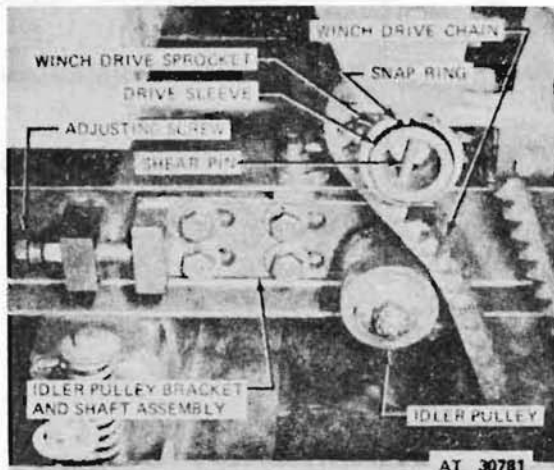
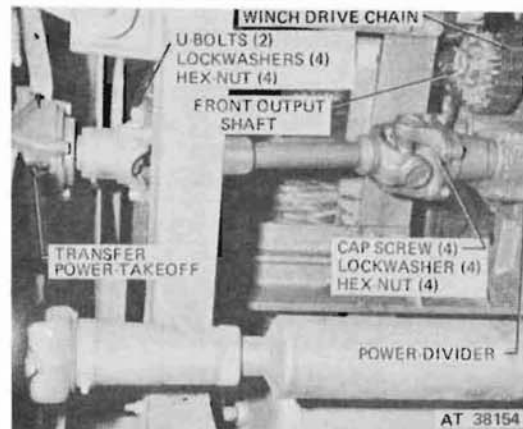

Figure 456. Rear winch drive chain - installed.
Figure 462. Power-divider propeller shaft - installed.
## 416. Rear Winch Drive Chain (Fig. 456).
- (1) Loosen the four idler pulley bracket and shaft assembly mounting screws. Loosen adjusting screw, and remove idler pulley tension from winch drive chain.
- (2) Remove shear pin from winch drive sprocket. Remove snap ring retaining winch drive chain sprocket on sprocket sleeve.
- (3) Remove cotter pin and hex-nut from end of power-divider front output shaft (fig. 462). To remove chain, pull chain sprocket, along with winch drive chain, from power-divider front output shaft, while sliding drive chain sprocket along drive sleeve (fig. 456). Do not remove sprocket from drive sleeve.
c. *Winch Drive Chain Adjustment (fig. 456).* Loosen hex-nut on idler pulley adjusting screw, then tighten adjusting screw until there is no deflection in chain. Tighten the four idler pulley bracket and shaft assembly mounting screws, and nut idler pulley adjusting screw.
#### 422. Power-Divider Drive Shaft Assembly (Fig. 462).